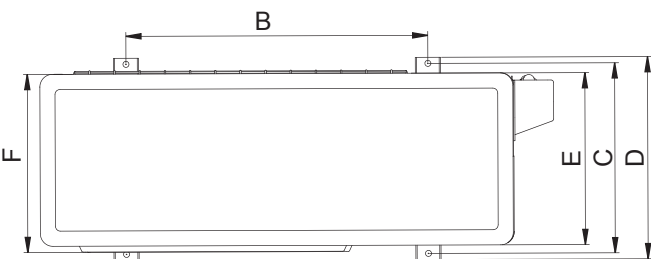
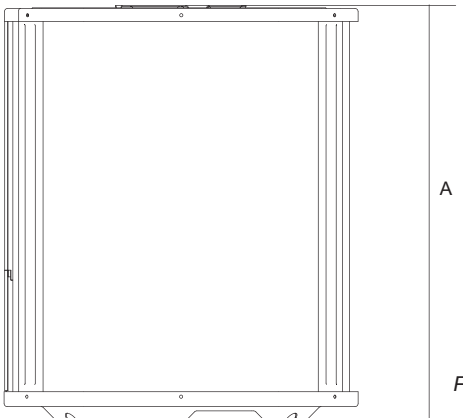

Fig.6-4
Fig.6-5
- The minimum distance between the outdoor unit and obstacles described in the installation chart does not mean that the same is applicable to the situation of an airtight room. Leave open two of the three directions.(Refore to Fig.6-4, Fig.6-5)